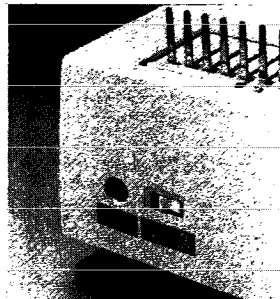

Figure 4.4
6. Locate the Main Power Switch at the lower rear, right hand side of the machine (see Figure 4.4). Push the Main Power Switch to the "ON" position. The yellow Power "ON" Indicator Light, located on the front left side of the machine, will illuminate indicating the machine is "ON" and ready for use.